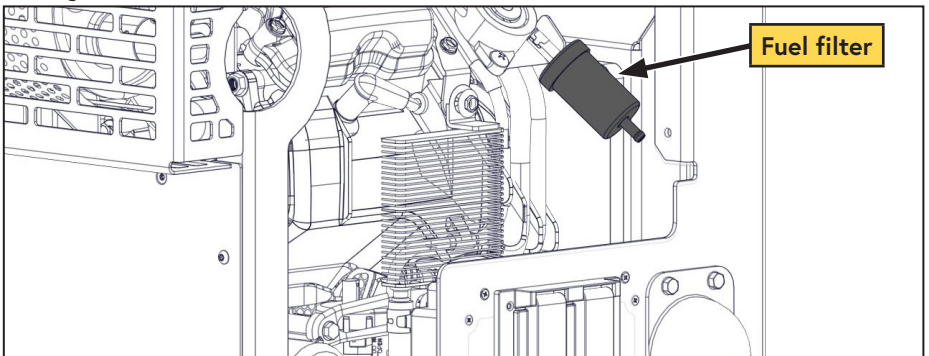

Figure 39 — Fuel filter
- Place appropriate absorbent material under the fuel filter to collect fuel spills (Figure 39).